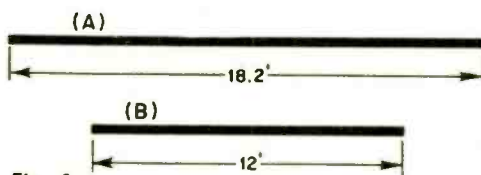

Fig. 2
To find out how long the coax should be, you must first sit down and figure out a half wavelength according to the standard formula. That would work out this way: length (in feet) = $984/f$, where 984 is the radio-wave velocity factor and f is the frequency in megacycles. The CB frequency of 27 mc figures out to a wavelength of 36.37 feet, giving us 18.2 feet as a true half wavelength, as in Fig. 2 (A).
The speed (Velocity Factor) for common coax is .66. To get an *electrical* half wavelength we multiply this factor by the true half wavelength, which works out this way: $.66 \times 18.2 = 12$ feet, as in Fig. 2 (B). So an electrical half wavelength is 12 feet, and that is the length of coax you need.